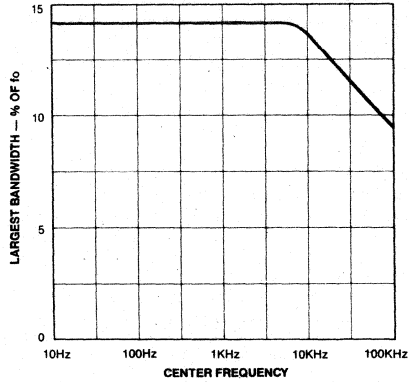

FIG 10. DETECTION BANDWIDTH
The selection of C2 is determined by the detection bandwidth requirements, as shown in Fig 10. For additional information see section on "Definition of Device Parameters."
2. Low-pass capacitor, C2, can be determined from the bandwidth versus input signal amplitude graph of Fig 10. One approach is to select an area of operation from the graph, and then adjust the input level and value of C2 accordingly. Or if the input amplitude variation is known, the required  $f_o C2$  product can be found to give the desired bandwidth. Constant bandwidth operation requires  $V_i > 200mV_{rms}$ . Then, as noted on the graph, bandwidth will be controlled solely by the  $f_o C2$  product.